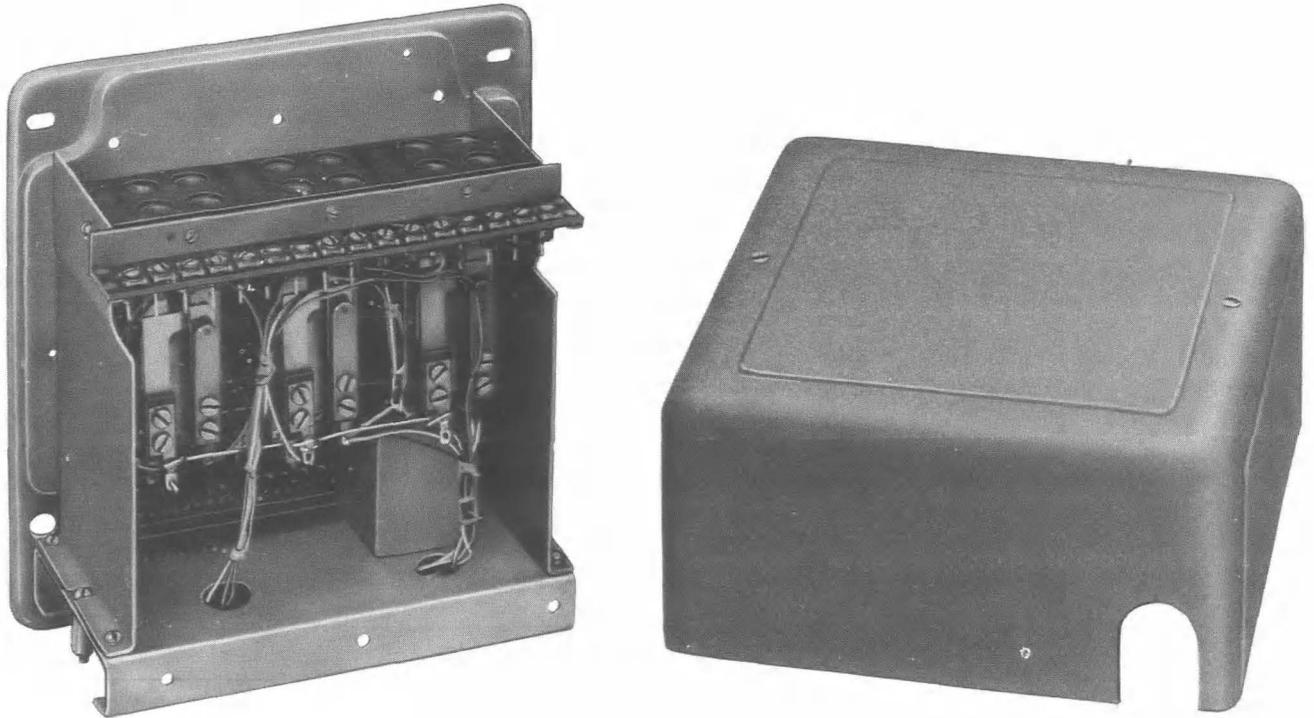

Fig. 2—KS-20159 L3 Equalizer and Apparatus Box Cover
1.04 The KS-20159 L3 and L4 equalizers are essentially identical and differ only in that the L3 (Fig. 2) is mounted in a 105B apparatus box. The KS-20159 L4 is intended for rack-mounting application or as a component part of the KS-20159